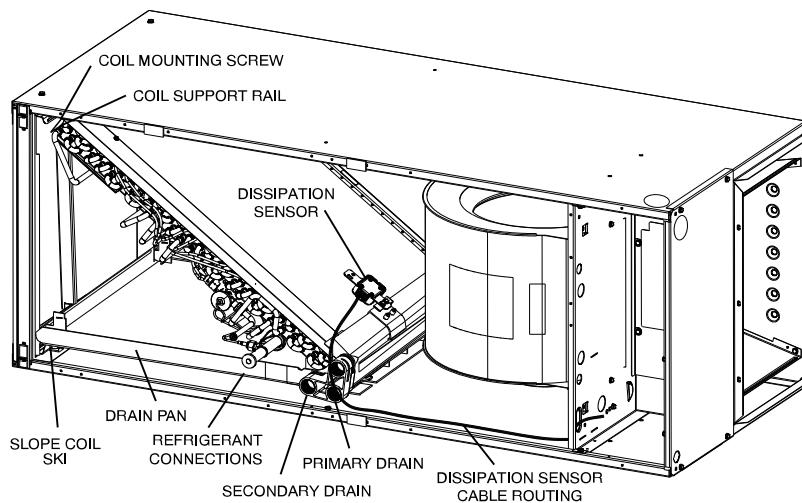

Fig. 6 – Conversion for Horizontal Right Applications - Slope Coil
6. Lay fan coil on its right side and reinstall coil assembly with condensate pan down (Fig. 6).
8. Reconnect sensor wire harness by following routing shown (Fig. 6).